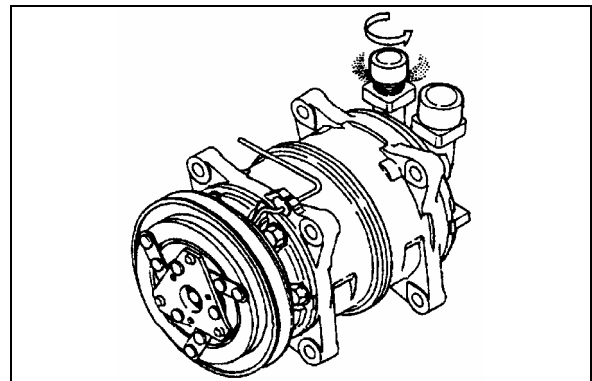

FIGURE 40: LOOSENING THE DISCHARGE SIDE CONNECTOR'S CAP
- * Loosen the discharge side connector's cap and gently release N² from compressor (Refer to figure 40).